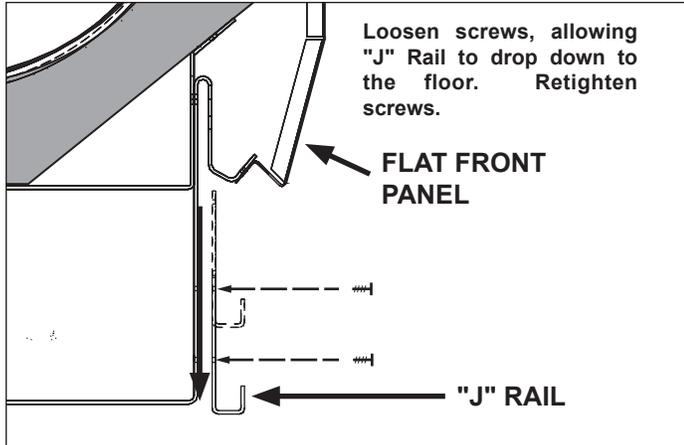

Fig. 7 "J" rail installation
10. The "J" rail is shipped attached to the case as shown. Loosen screws holding "J" rail to allow it to slide down and fit flush with the floor (Fig. 7). Re-tighten screws.